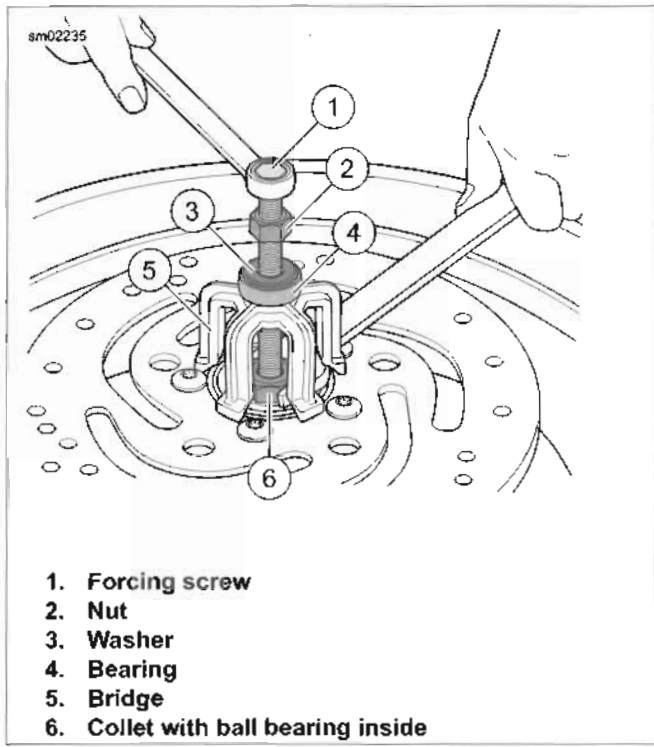
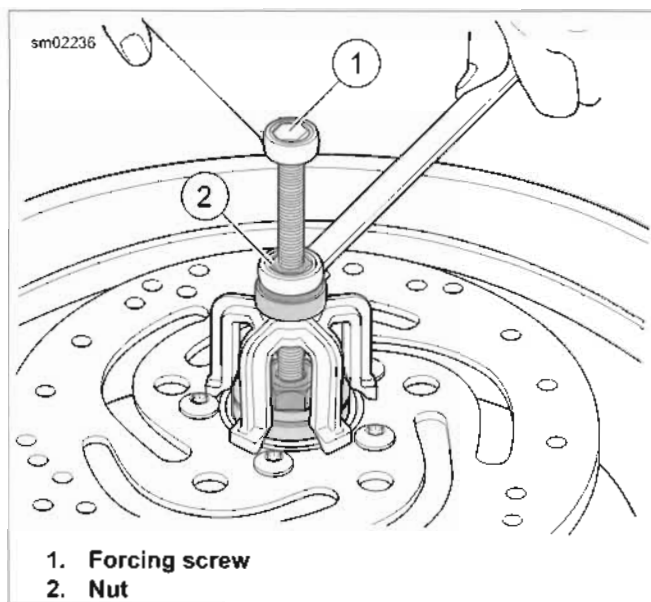

Figure 2-24. Wheel Bearing Removal Tool
Figure 2-26. Removing Bearing
3. See Figure 2-24. Obtain WHEEL BEARING INSTALLER/REMOVER (Part No. HD-44060C) and assemble using 25MM BEARING REMOVER (ABS) (Part No. HD-44060-11A) or 25MM BEARING REMOVER (NON-ABS) (Part No. HD-44060-10A) (6).
- a. Sparingly apply GRAPHITE LUBRICANT to forcing screw (1) to maintain smooth operation and prolong service life.
- b. Install nut (2), washer (3) and bearing (4) on screw. Insert assembly through hole in bridge (5).
- c. Drop ball bearing inside 25 mm collet (6). Fasten collet and ball bearing to forcing screw.
5. See Figure 2-26. When expanded collet has gripped bearing edges, hold end of forcing screw and turn the nut to remove bearing from wheel.